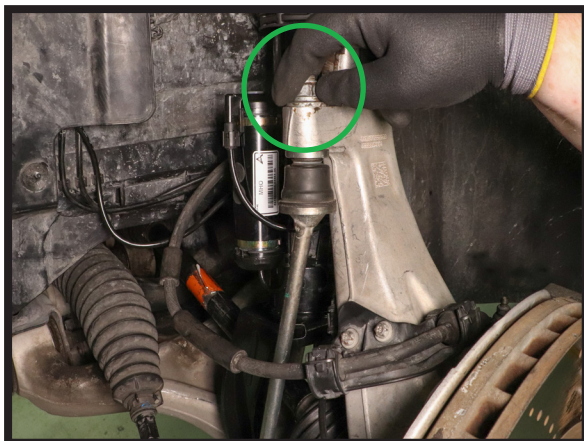

FIGURE 33
8. REINSTALL SWAY BAR LINKAGE AND TIGHTEN TO MANUFACTURER'S SPECIFICATIONS. (FIGURES 33, 34)